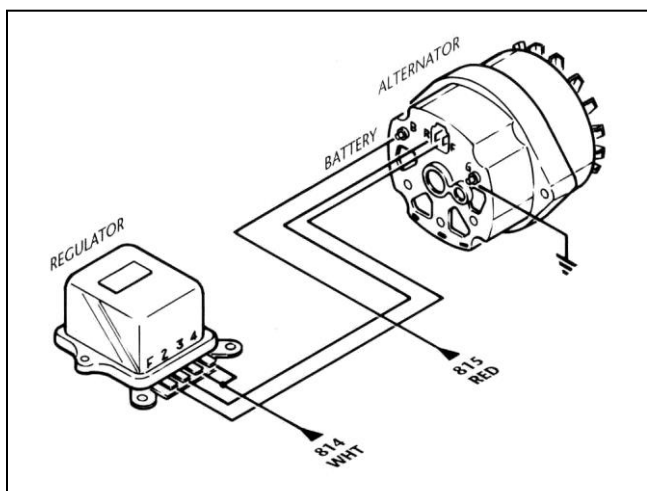

Figure 6.1 Early GM alternator with external regulator.
6.2.1 Early GM Alternator (before 1969) - External Regulator. See **Figure 6.1**.